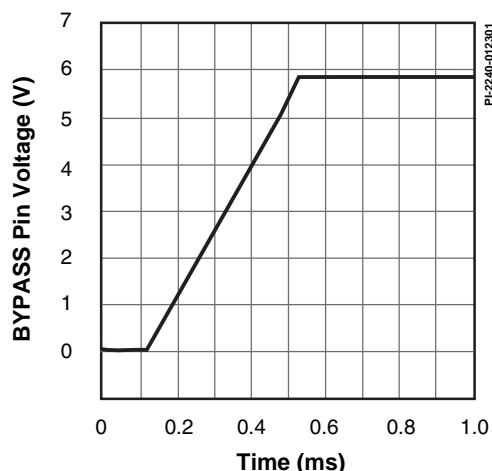

Figure 15. BYPASS Pin Start-up Waveform.
D. See Typical Performance Characteristics section Figure 15 for BYPASS pin start-up charging waveform.